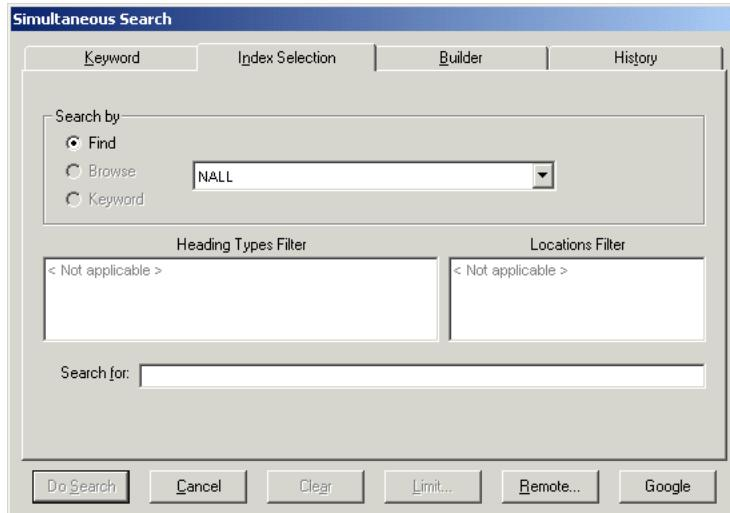

Figure 2-41. Simultaneous Search dialog box
- If you are connecting to more than one database, the **Simultaneous Search** dialog box opens (see Figure 2-41). The types of searches available are limited to those shared by all connected databases.